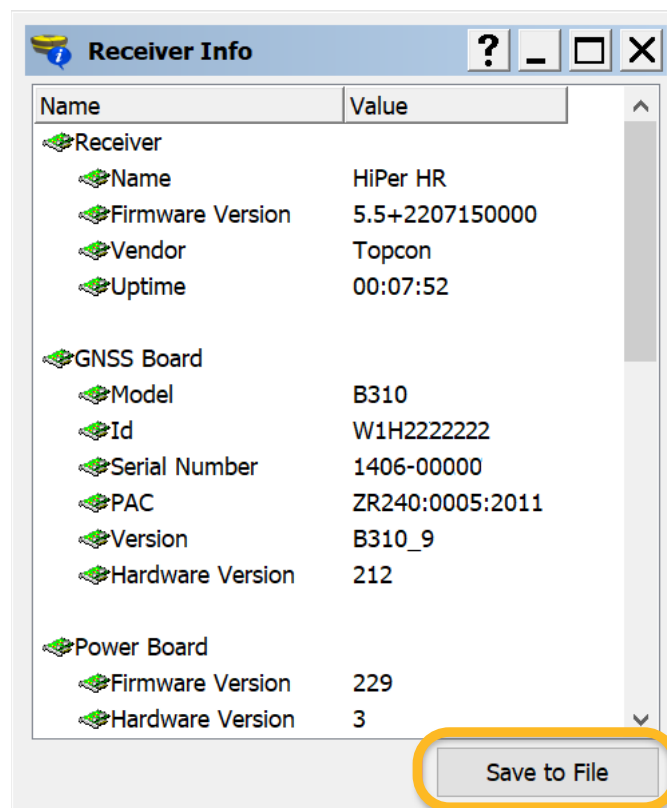

Figure 1-6: TRU Receiver Info-Save to File
The **Receiver Info** screen opens (Figure 1-6). It shows receiver information, such as hardware and firmware versions, RAM size, receiver ID and serial number, and etc.
9. Select **Save to File** (Figure 1-6).